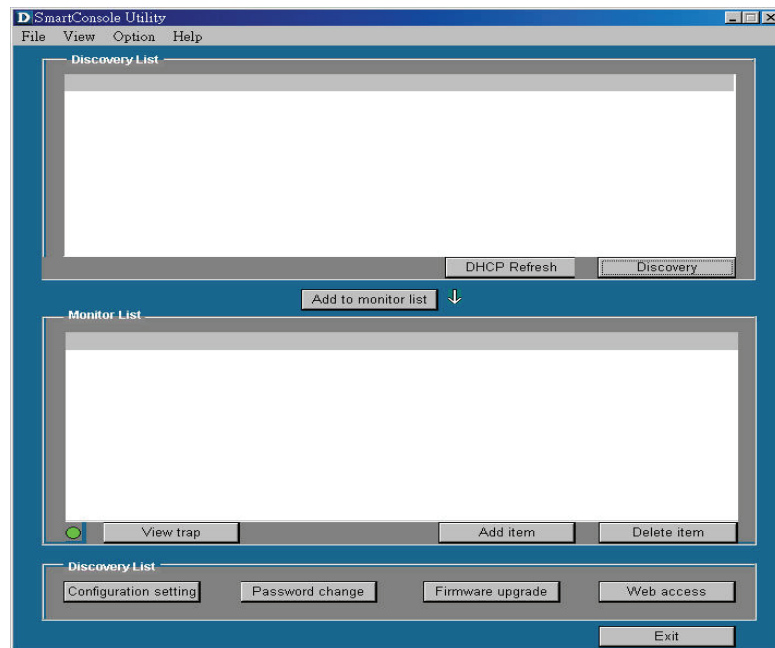

Figure 1. SmartConsole Utility
5. Upon completion, go to **Program Files -> SmartConsole Utility** and execute the SmartConsole utility. (Figure 1.)